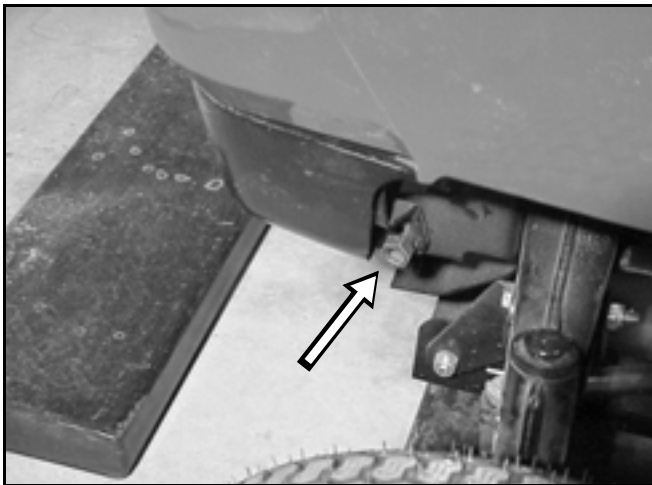

Figure 155
2. Unbolt the 2 shoulder bolts, located on the right and left side, bottom of the hood and carefully remove the hood (Figure 155).